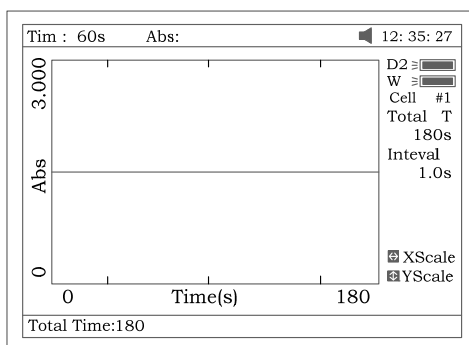

Fig 54
1. Press [F1] to set “Total Time”, ”Delay Time”, ”Time interval”, and input the value by pressing the numeric keypad (Fig 54).